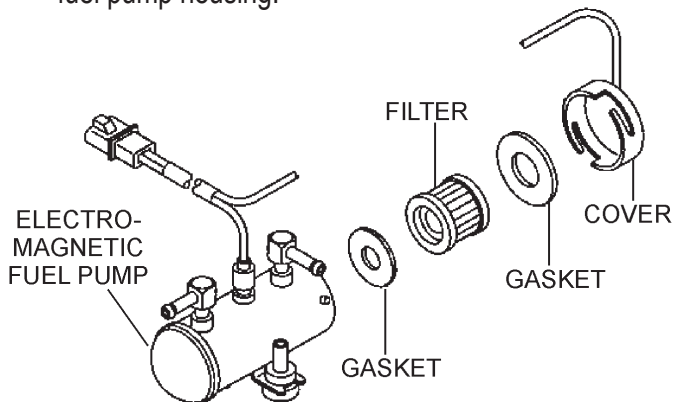

Figure 124. Electromagnetic Fuel Pump
The filter inside the **electromagnetic fuel pump** (Figure 124) is either a paper type or steel mesh type depending on the fuel pump type. Clean or replace the fuel pump filter as follows:
12. Remove the **filter** and **gaskets** (Figure 124) from the fuel pump housing.